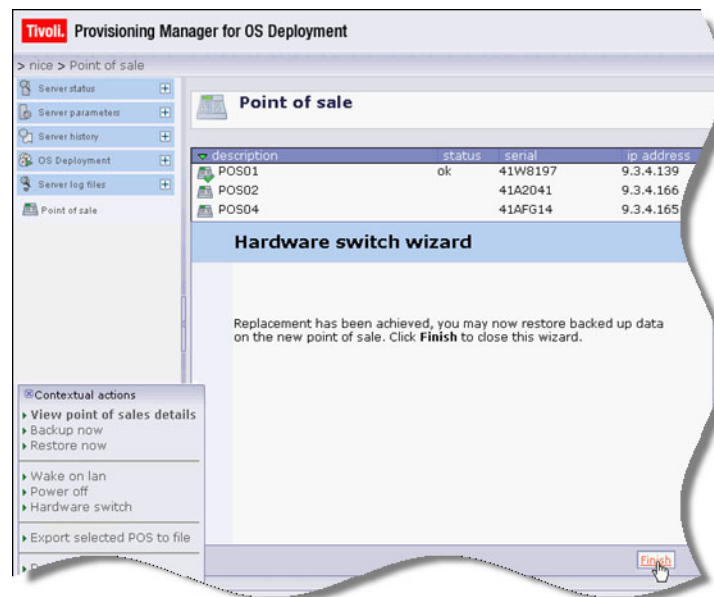

Figure 5-35 Hardware switch completed
- Now click **Next** and the plug-in performs the switch. Once it has finished it displays one last window reporting the result (Figure 5-35).